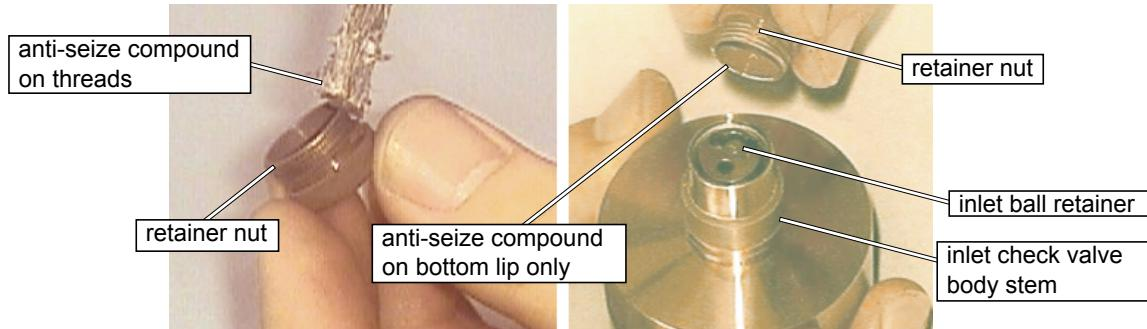

Figure 6-28
13. Apply a small amount of **anti-seize compound** to threads of the **retainer nut** and bottom lip of the retainer nut that contacts the **inlet ball retainer** (Figure 6-28).